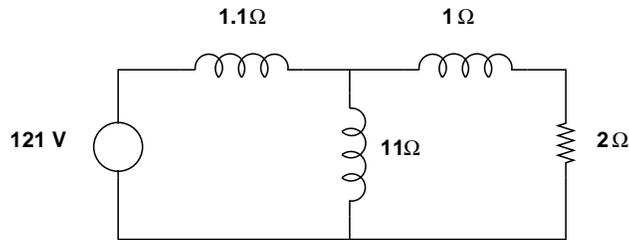

Figure 3: Problem 3: Induction Motor Equivalent Circuit
**Problem 3: Induction Machines** Please note that some compromises have been made in the search of 'nice numbers'. The equivalent circuit for an induction machine is shown in Figure 3. Note this is the equivalent of one phase of a three-phase machine. The equivalent circuit is drawn for the machine at locked-rotor conditions and for an electrical frequency of 110 radians/second. Terminal voltage is 121 volts, RMS at the same electrical frequency of 110 /radians/second (about 17.5 Hz). The machine has four poles.